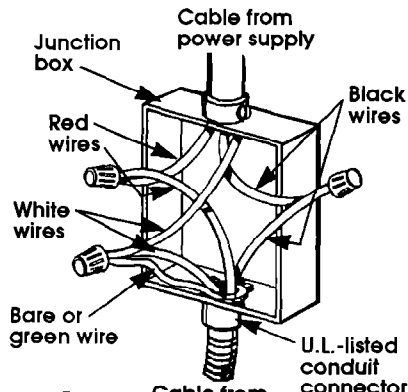

Figure 1
3. Connect the two black wires together; then connect the two red wires together. See Figure 1.